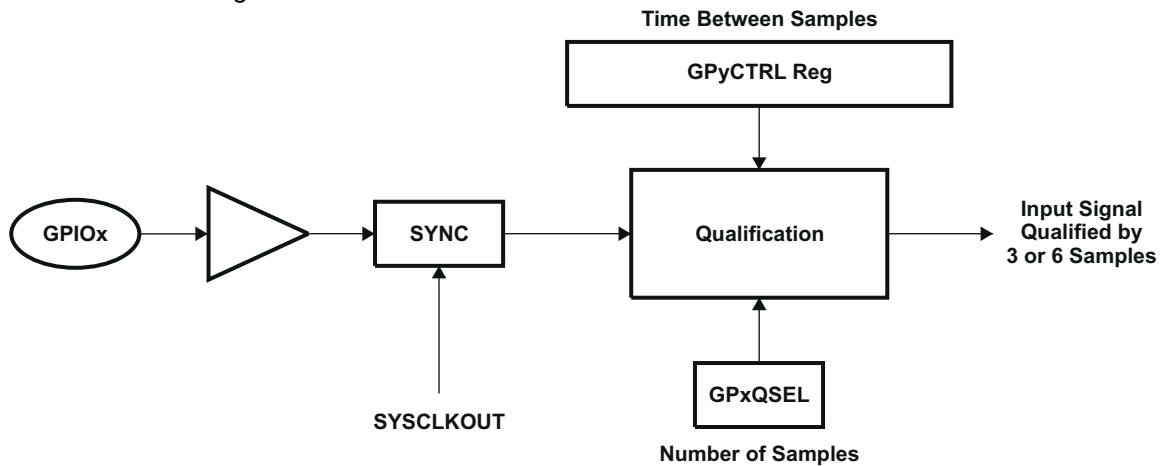

Figure 8-19. Qualification Using Sampling Window
- The sampling period is specified by the QUALPRD bits in the GPxCTRL register and is configurable in groups of 8 signals. It specifies a multiple of SYSCLKOUT cycles for sampling the input signal. The sampling window is either 3-samples or 6-samples wide and the output is only changed when all samples are the same (all 0s or all 1s) as shown in Figure 8-19 (for 6-sample mode).